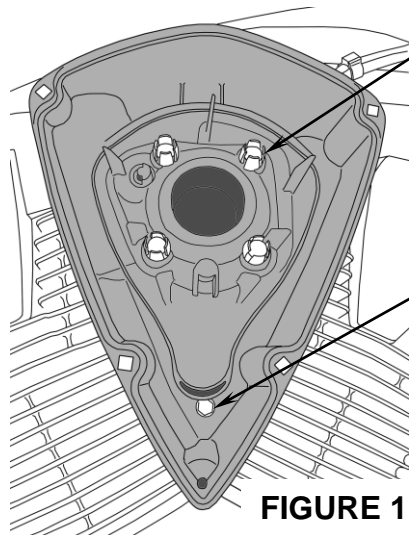

FIGURE 1
1. Remove the (4) M6 bolts that hold on the right side air cleaner cover then remove the cover and filter. Remove the air cleaner backing plate by loosening the (4) screws around air inlet (Note: screws will not come out they only loosen) and the (1) M6 hex bolt from the backing plate. See Figure 1.